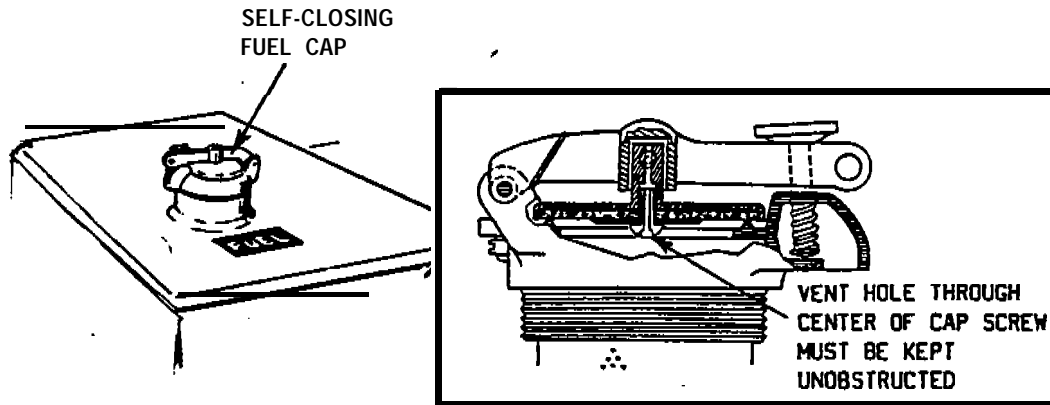

FIGURE 1
(Weekly) 2. ☐ The fuel filler cap (1)* is vented and the vent is not plugged. (See FIGURE 1).